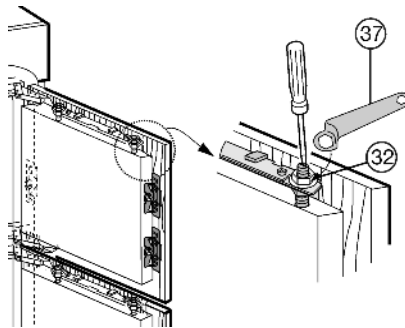

Fig. 26
- ▶ Tighten the locknuts *Fig. 26 (32)* with the ring wrench *Fig. 26 (37)* while bracing the adjusting bolts *Fig. 26 (33)* with a screwdriver.